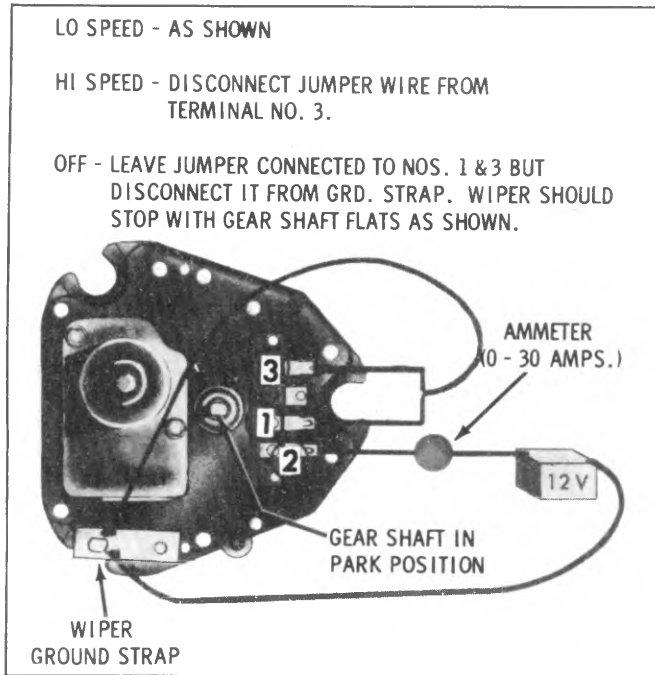

Fig. 8-23--Jumper Wire Connections
3. Disconnect wiring harness from wiper and try operating wiper as shown in Figure 8-23.